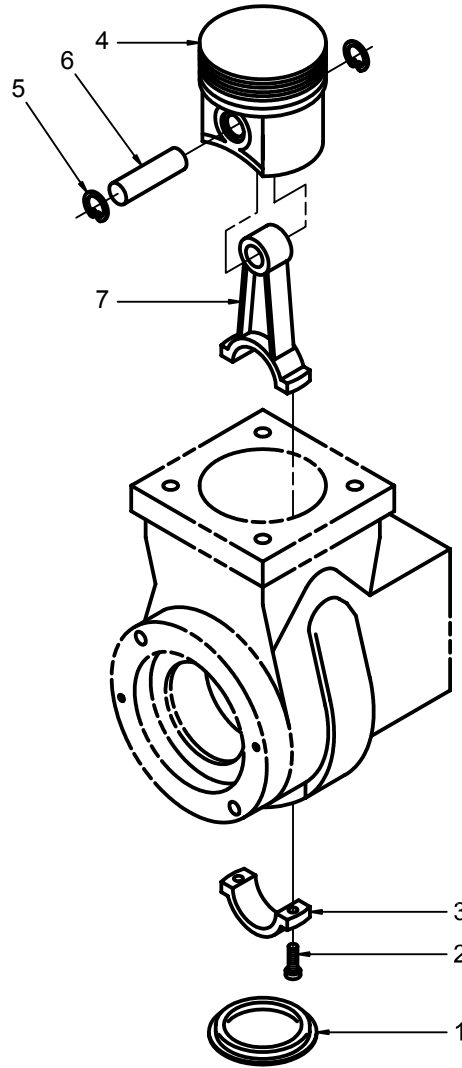

Figure I-5. Piston Assembly Replacement
I-3-3 Piston Assembly Replacement. (Refer to Figure I-5.)
- b. Use a large screwdriver to remove the sump plug (1, Figure I-5). Discard the plug.
- d. Remove two Torx head bolts (2). Retain the bolts unless replacing the connecting rod with the piston.
- e. Remove connecting rod cap (3). Retain the cap unless replacing the connecting rod with the piston.
- f. Push the piston (4) and connecting rod out of the top of the crankcase by pushing the bottom of the connecting rod with a wooden dowel.
- g. Remove one piston pin retaining clip (5). Then push out piston pin (6) to separate the piston (4) and connecting rod (7). Discard the clip, piston pin, and piston but retain the connecting rod if not replacing the rod.